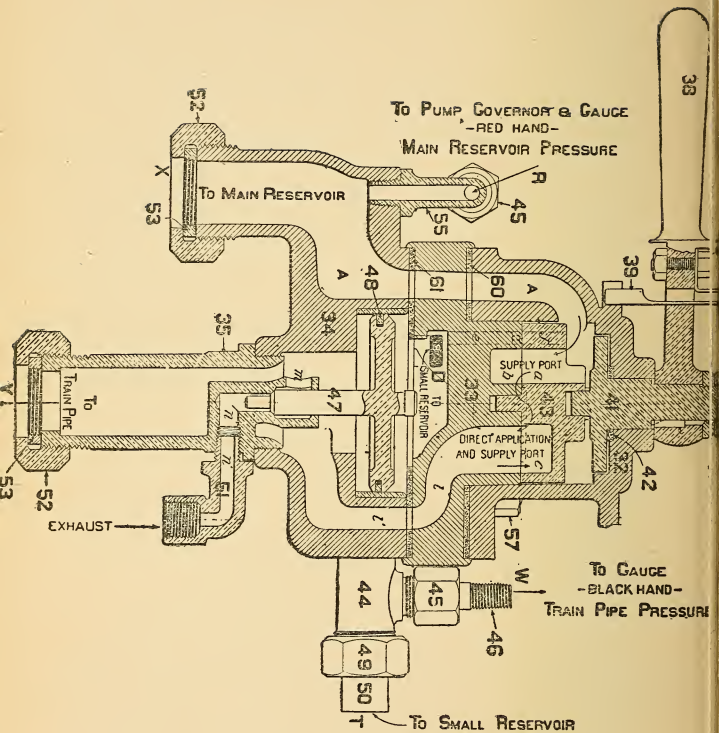
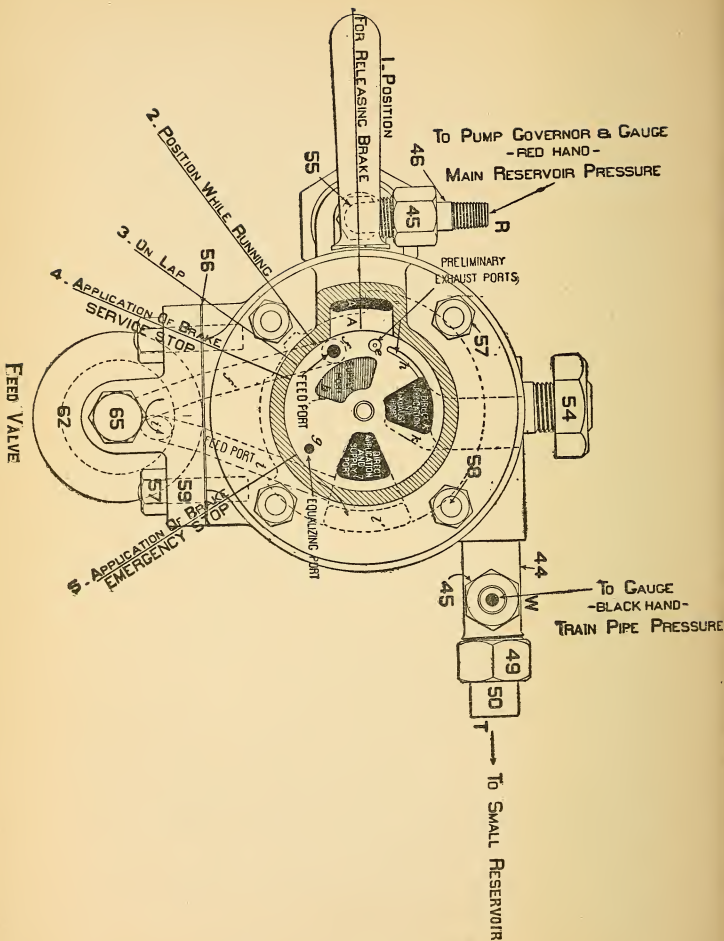
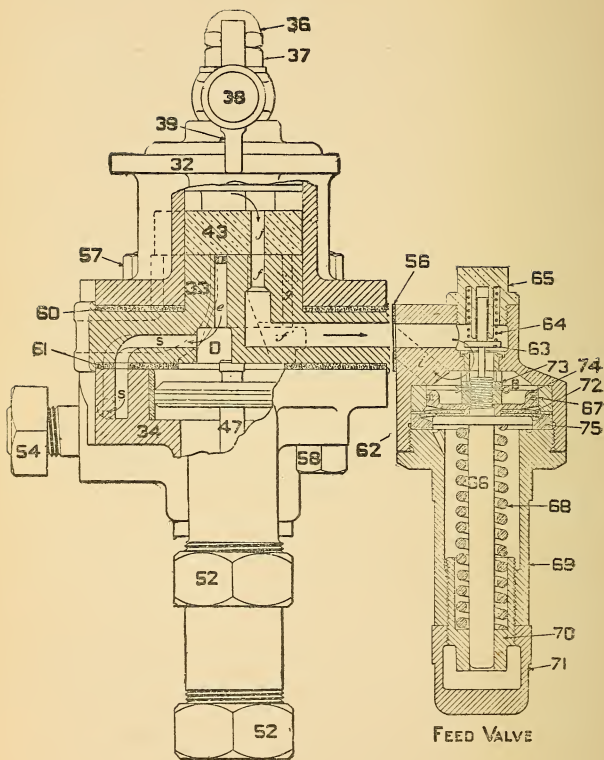
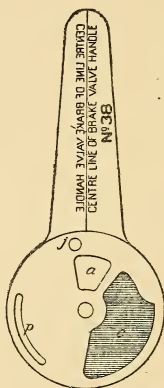

FIG. 10. - F 6 BRAKE VALVE.
FIG. 11.—F 6 BRAKE VALVE.
FIG. 12.—F 6 BRAKE VALVE.
FIG. 13.—A VIEW OF THE BOTTOM SIDE OF THE ROTARY 43.
A. *X, Y, T, W, and R* are explained by referring to Fig. 10.
A. In this position the main reservoir pressure enters the valve at *X*, passes through port *A*, port *a* of the rotary 43, port *b* of the rotary seat 33 (Figs. 10 and 11), up into cavity *c* of the rotary and through port *l* into the train line at *Y*. As the air passes through cavity *c* of the rotary on its way to the train line, it is free to pass through port *g* (Fig. 11) into cavity *D*. In this position, port *j* of the rotary (Fig. 12) is over port *e* in the rotary seat (Fig. 11) also leading to the little drum, or cavity *D*.
A. It is the escape of main reservoir pressure through the warning port of the rotary into the emergency exhaust (Fig. 11) and out to the atmosphere.
A. Because in this position all air passing into the train line from the main reservoir has to pass through the feed valve (Fig. 12), and this is adjusted to close as soon as there is a seventy-pound pressure on the train line.
*Q. In running position we have the position of the rotary as shown in Fig. 12. Explain the passage of air in this position.*
A. The main reservoir pressure passes through the ports  $j$ ,  $f$  and  $f'$  (Figs. 11 and 12) into the feed valve, or train-line governor as it is more commonly called; thence through port  $i$  (Fig. 11) into port  $l$  (Figs. 10 and 11) and out into the train line at  $Y$ . As the pressure passes through port  $l$  into the train line it is also free to pass up into cavity  $c$  of the rotary which is still over port  $l$  as seen in Fig. 10. Port  $g$  is still exposed under cavity  $c$ , and at the same time the air passes through the train-line governor into the train line, it also passes into cavity  $c$  of the rotary, port  $g$  of the rotary seat (Fig. 11) and into cavity  $D$ , or the little drum.
A. The pump governor, which is connected with main reservoir pressure at 45 (Fig. 10).
A. No; it is connected to little drum pressure. (See 46, Fig. 10.)
A. The equalizing piston 47 (Fig. 10).
A. Because in order to have piston 47 work smoothly the packing ring 48 (Fig. 10) must not be absolutely tight. If the train line leaks, the little drum pressure will gradually leak by the packing ring into the train line and equalize with it.
A. In this position, a groove *p* (Fig. 13) of the rotary connects port *e* (Fig. 11) leading to the little drum through rotary seat with a groove *h* (Fig. 11) also in the rotary seat; *h* leads into the emergency exhaust *k* (Fig. 11), which is directly connected with the atmosphere as shown by the dotted lines. We then have a direct connection from the little drum to the atmosphere through small ports.
A. The train-line pressure being greater forces piston 47 from its seat and allows train-line pressure to escape to the atmosphere through the train-line exhaust 51 (Fig. 10).
A. The rotary is moved around so that the large cavity *c* (Fig. 13) is directly over the large ports *l* and *k* of the rotary seat (Fig. 11). Air passes from the train line at *l* into cavity *c* and out to the atmosphere through port *k*.